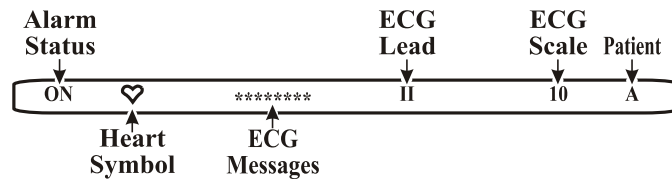

Figure 1-4. The Informational Display
- a. **Informational Display.** (See **Figure 1-4**) The Informational Display provides the operator with a visual status of the setup and operation of the monitoring system. This display contains the Alarm Status, a Heart Symbol, a Lung Symbol, any active Alarm Messages, the selected ECG Lead and the selected ECG Scale.